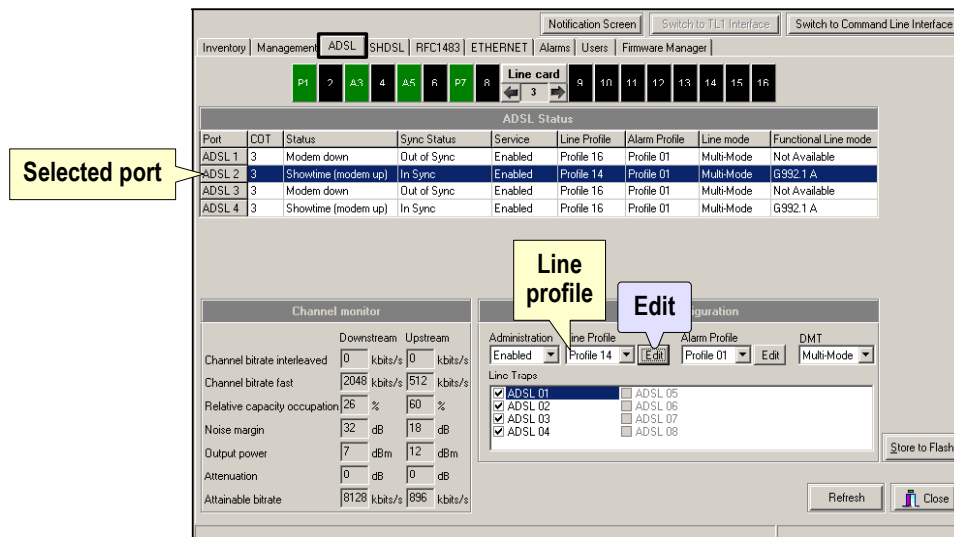

Figure 52 – Edit Line Profile
- 1 On the **ADSL** screen (Figure 52), select the port where you want to change the line profile settings.
For example, in Figure 52, **Profile 14** has been selected for editing and the Line Profile for ADSL 2 has changed to **Profile 14**.